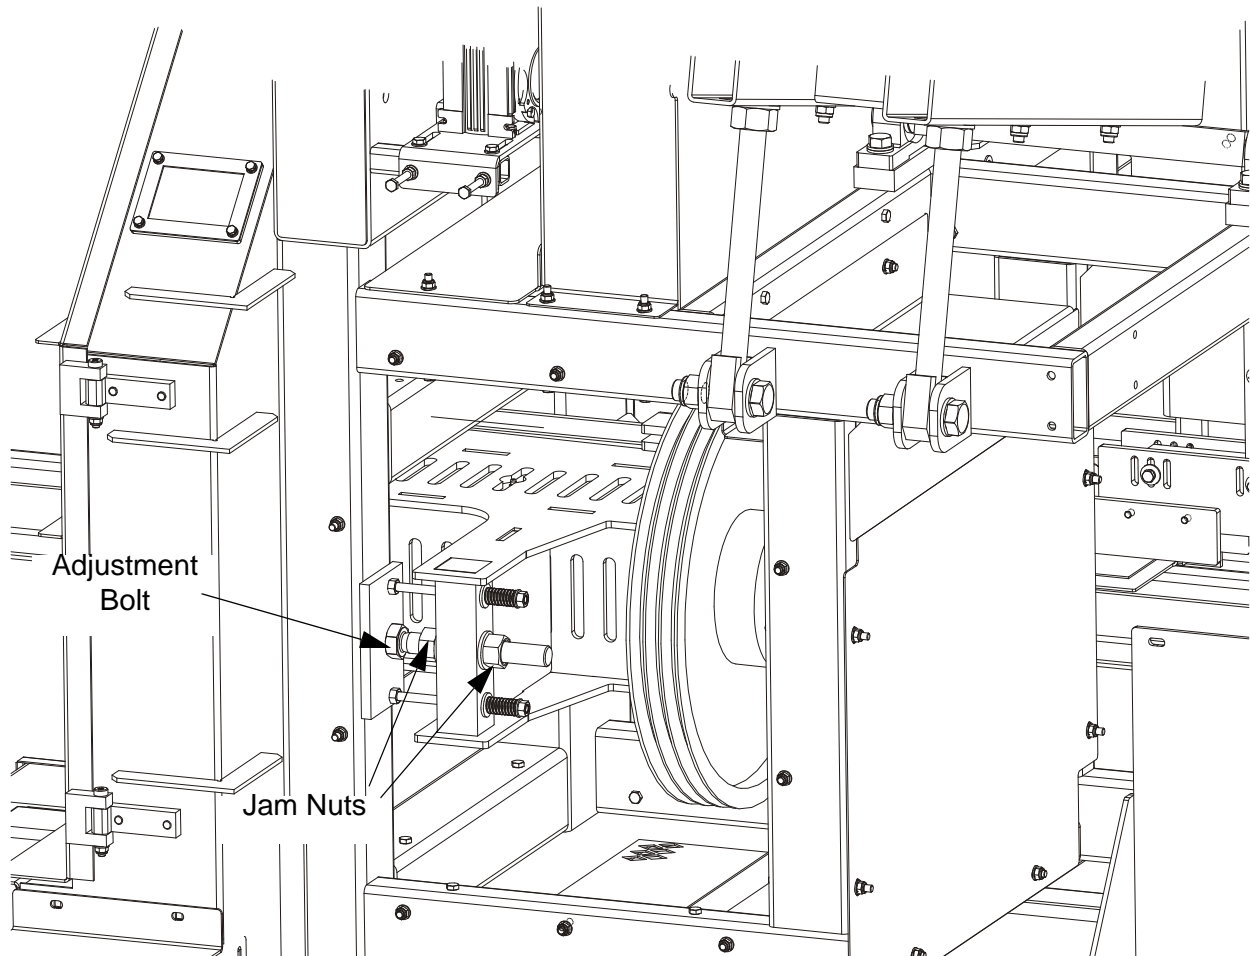

FIG. 5-8
**See Figure 5-8.** Remove the saw head side cover. Use the horizontal adjustment bolt to adjust the drive-side blade wheel. To move the blade back on the wheel, loosen the jam nuts on the adjustment bolt and turn the bolt counterclockwise. Tighten the jam nuts.